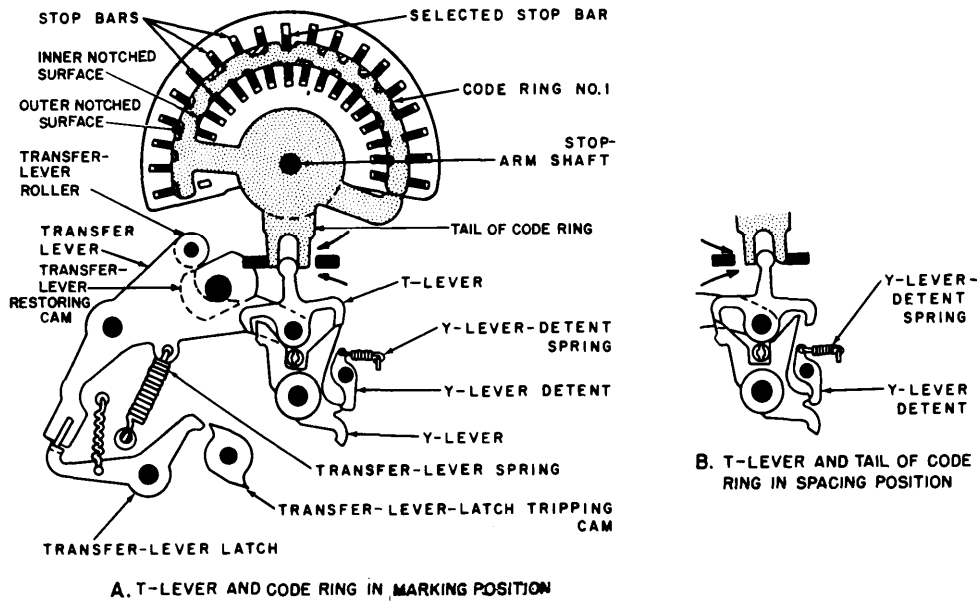

Figure 2-21. T-levers and code rings set to marking and spacing positions.
with, an associated Y-lever. The vertical arm of each T-lever is in engagement with a slot in the tail of an associated code ring. The five code rings (fig. 2-21) pivot around the stop-arm shaft. The code rings are moved to the marking and spacing positions as described in *a* and *b* below. During printing, the code rings of the TT-4B/TG, TT-4C/TG, TT-335/TG, TT-537/G, TT-698A/TG, and TT-698B/TG are locked in their selected positions as described in *d* below. The TT-4/TG and TT-698/TG does not include the code-ring locking feature.
transfer lever. The tension of the transfer-lever spring turns the transfer-lever clockwise and the T-levers move downward, against the upper arms of the Y-levers (fig. 2-21).
ring to pivot clockwise to the marking position (A, fig. 2-21).
(2) *Setting code ring to spacing position.* If a Y-lever is in the spacing (counterclockwise) position when the T-levers move downward, the left hand arm of its associated T-lever strikes the left hand arm of the Y-lever and the T-lever pivots clockwise, causing its associated code ring to pivot counterclockwise to the spacing position (B, fig. 2-21).
(1) During the transfer operation, the transfer-lever roller moves toward a low part of the transfer-lever restoring cam (fig. 2-21). Immediately after the transfer operation occurs, the restoring cam starts to turn, ((2) below). A lobe of the restoring cam pushes the roller upward to cause the transfer lever to pivot counterclockwise slightly until it is latched by the transfer-lever latch.
2	Transfer-lever latch releases transfer lever (fig. 2-21).
*b. Stop-Bar Selection.* The inner and outer surfaces of the curved portion of each of the code rings are notched (fig. 2-21 and 2-22). The pattern of notches in each code ring differs from the notch pattern of the other four code rings. When the transfer operation occurs, each of the code rings is positioned clockwise or counterclockwise, and the five code rings form a groove in line with one of the stop bars. Pressure of the stop-bar spring causes the stop bar to move into the groove formed by the code